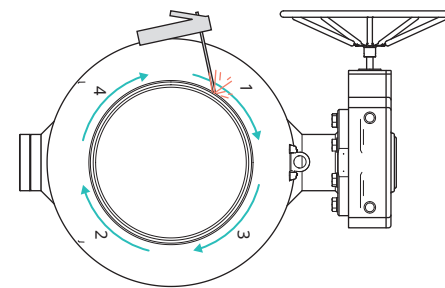

Figure 4. Welding the seams
- Then the seams between the bridges are welded as shown in Figures 4. and 5. Welding order: 1-2-3-4.